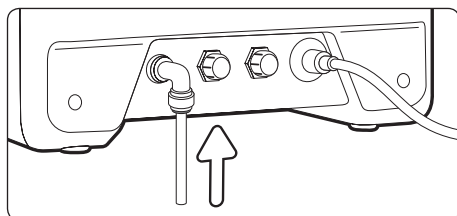

Figure 3
4. Fit the water inlet hose into the connection and push it all the way to the end (Figure 3).